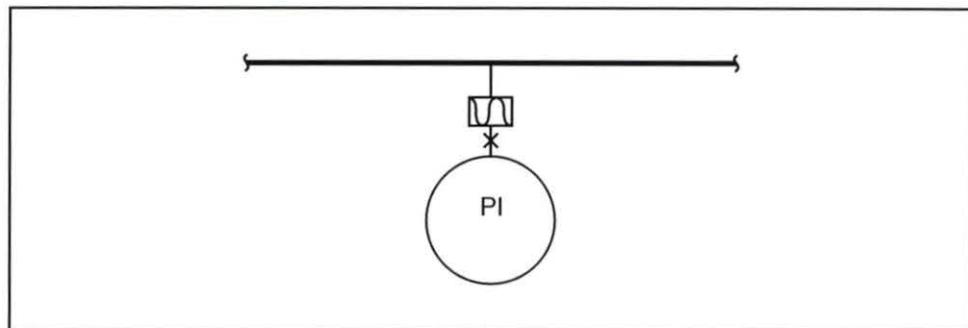

Figure 69. Sensing Element Symbol
5. Determine which type of pressure sensing element symbol is shown in figure 69.